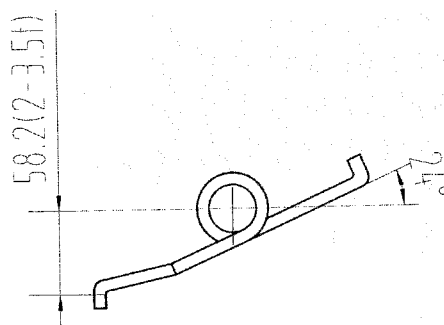

Fig 7-19
(2) Remove the return springs for the two brake shoes (Fig 7-19)